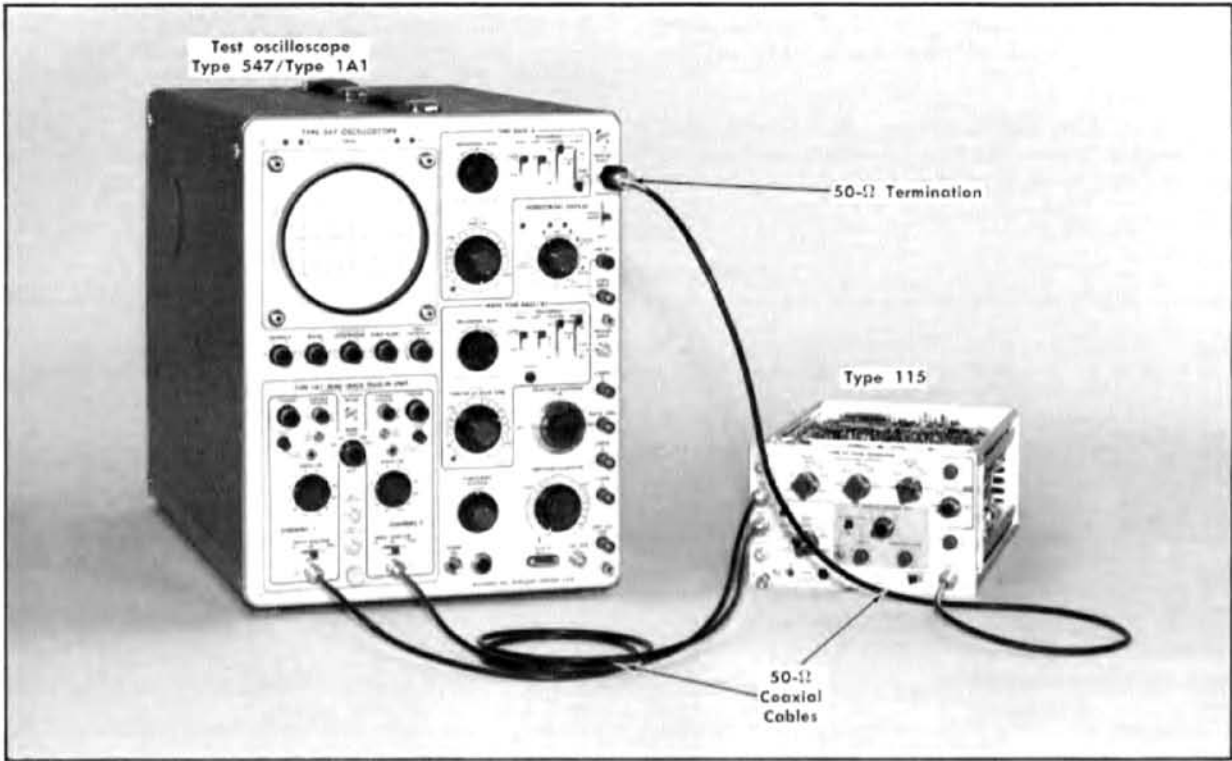

Fig. 5-25. Initial test equipment setup for steps 27 through 31.
- Test equipment setup is shown in Fig. 5-25.